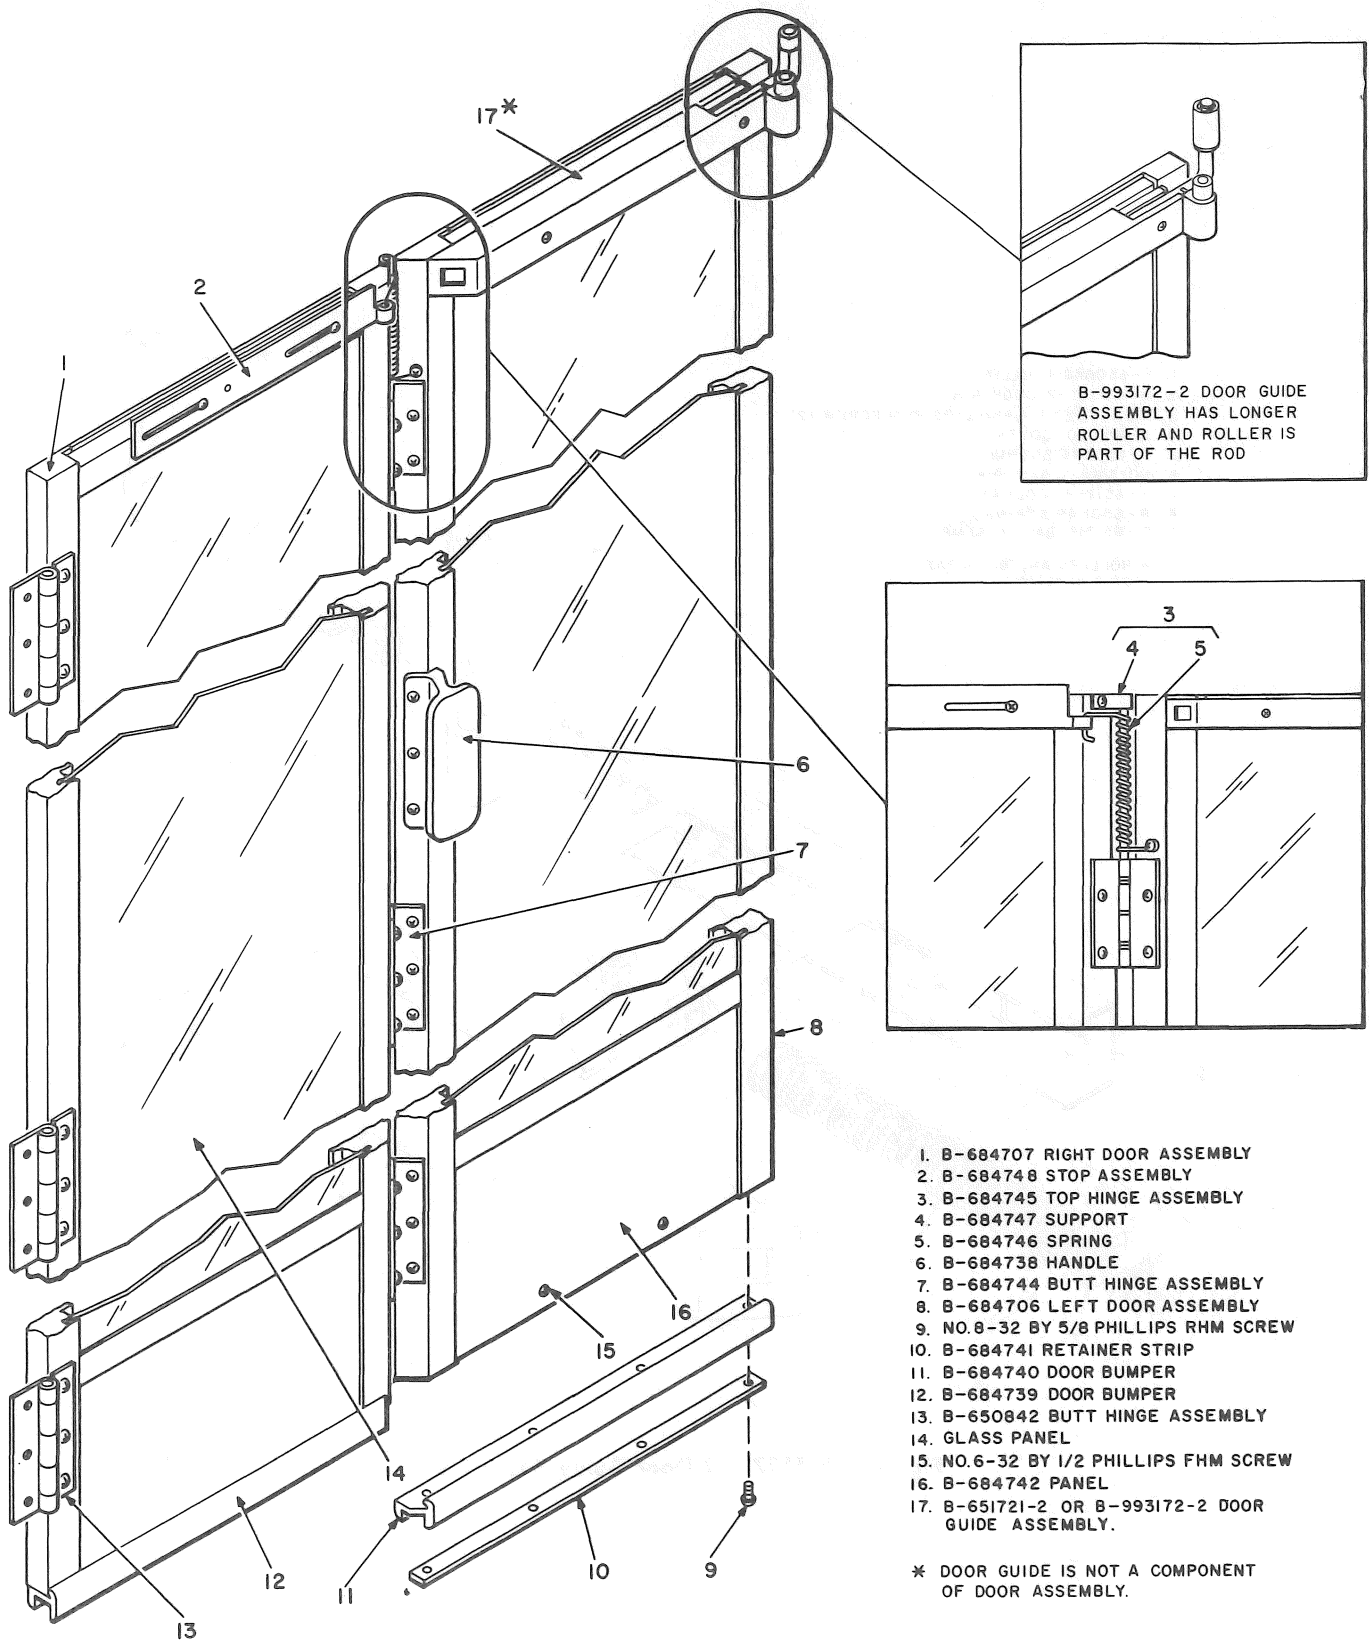

Fig. 25—B-684705 Door Assembly
DOOR REQUIREMENTS (See Fig. 25 For Replacement Parts)
4.27 The door shall be held open 2 to 3 inches when in the normal position. Ensure that maximum tension is obtained on spring in center of door (Fig. 25).
4.36 Replace damaged bumpers along bottom of door (Fig. 25).
4.39 The parts listed in Table C are not shown in Fig. 25, 26, or 27 but may be ordered as necessary. Refer to Tables A and B for panels and signs.